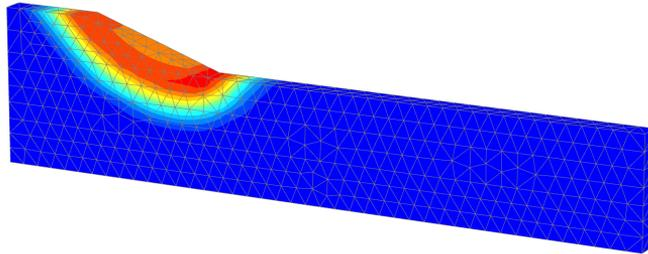

Figure 4.16 Shadings of the total displacement increments indicating the most applicable failure mechanism of the embankment in the final stage
-  Change the presentation from *Arrows* to *Shadings*. The resulting plots give a good impression of the failure mechanisms (Figure 4.16). The magnitude of the displacement increments is not relevant.